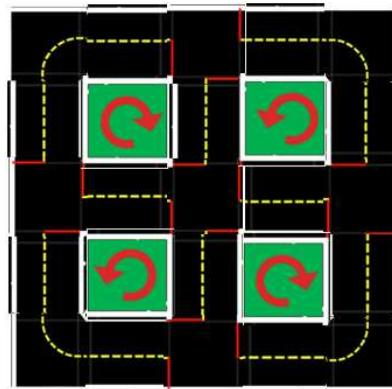

Figure 22.3. The Demo Map
Dream scenario intersection coordination: Duckiebots loop through the map as indicated in Figure 22.3. At the intersections the Duckiebots coordinate implicitly. Demo can run indefinitely without collision. Tunable: density of the traffic (fleet size) and the speed.
- The tiles to build the map in Figure 22.3